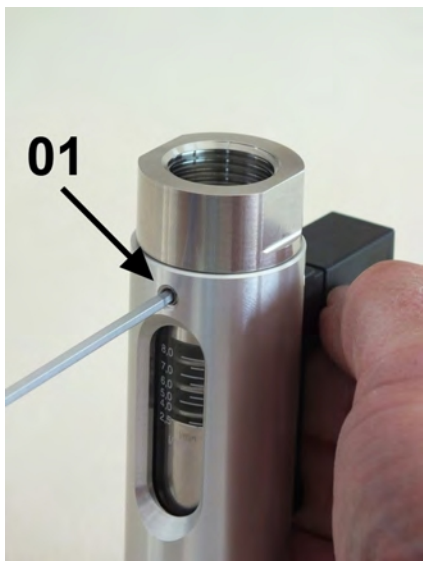

Fig. 50: Tighten hex socket screws
14. Tighten the 3 hex head screws (Fig. 50/01), observing the proper torque (☞ Chapter 11.1 “Tightening torque” on page 75).